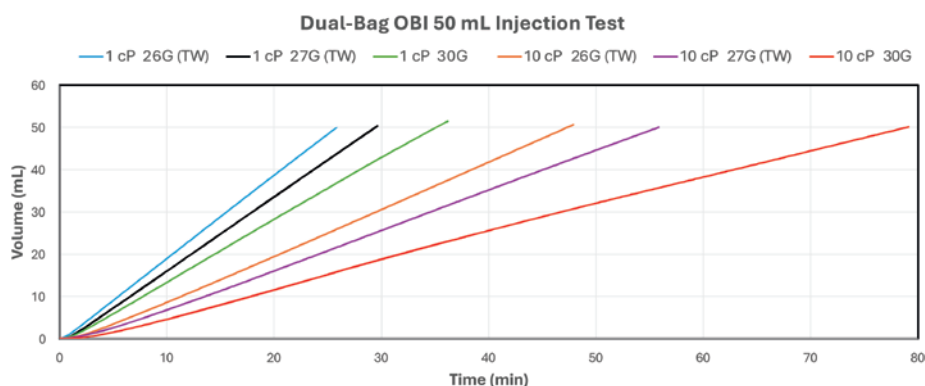

Figure 3: Dual-bag OBI preliminary study results – volume versus time with three different needle gauges and two viscosities.
Figure 3 and Table 1 present the delivery volume and delivery duration of the dual-bag OBI prototype using 26G (TW), 27G (TW) and 30G needles with a 50 mL bag of deionised water (1cP) and 60% glycerine solution (10 cP). With a